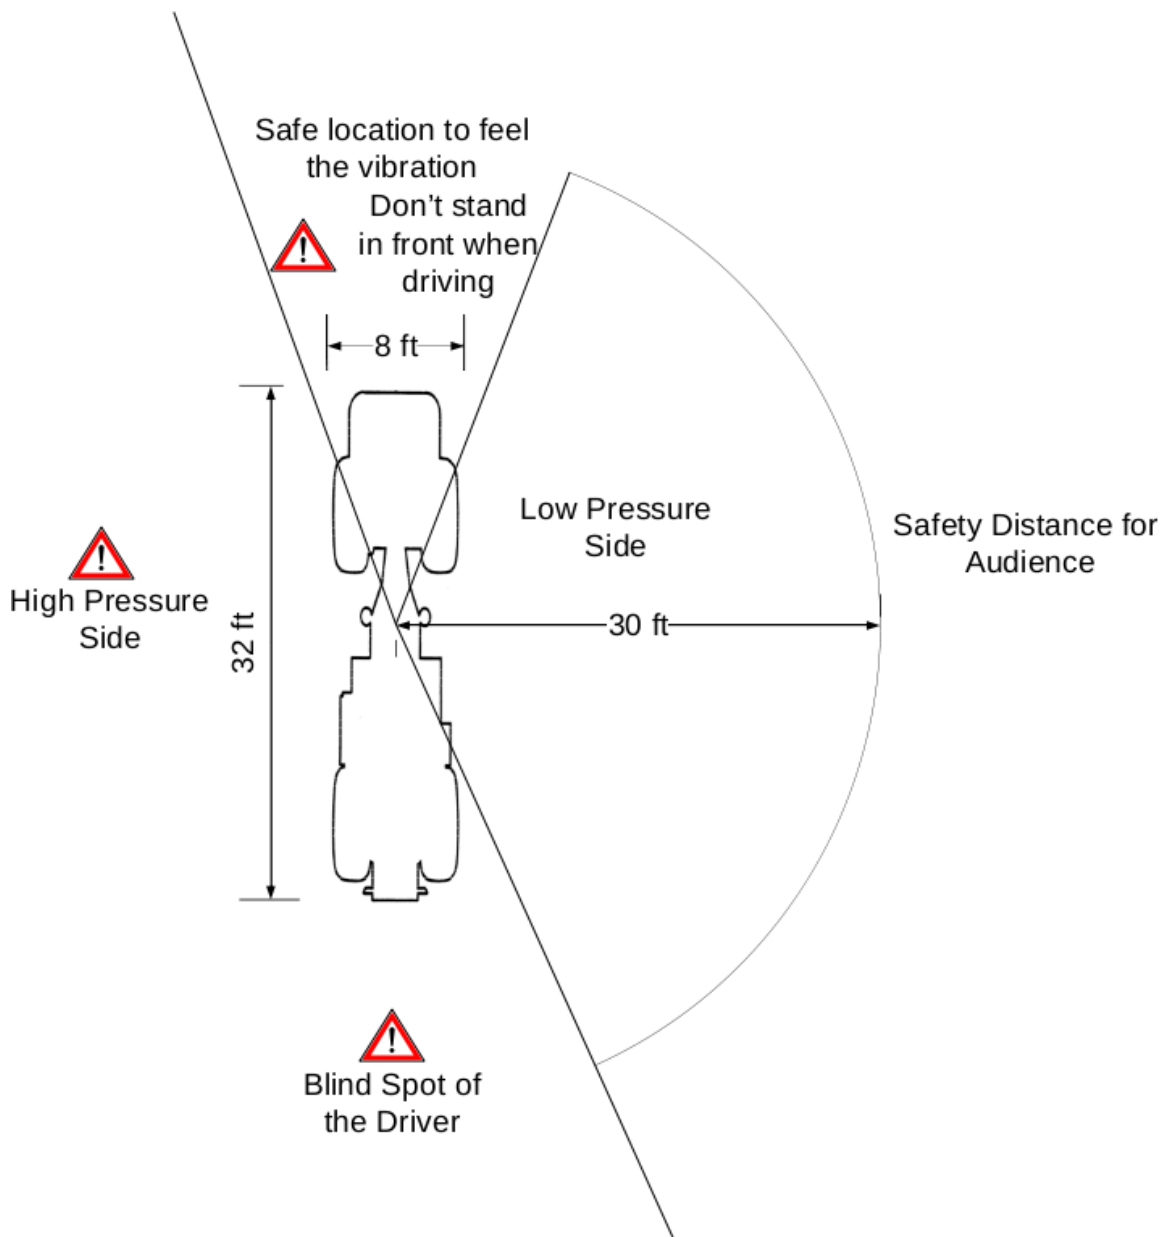

FIGURE 4: T-REX AND LIQUIDATOR AUDIENCE SAFE AREA
4. The safe area for audience is shown in Figure 4.